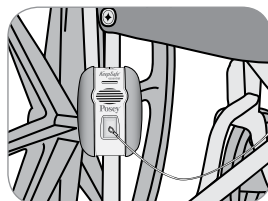

Fig. 16
3. Slide the alarm onto the bracket from the top down. The alarm should rest on the bottom of the "L" (fig. 16).